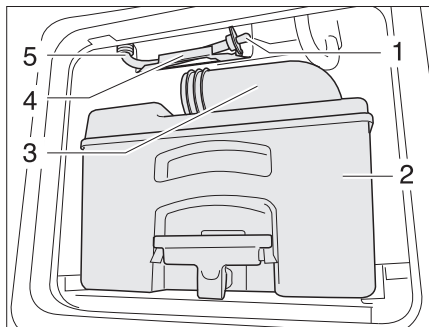

Fig. 194 Toilet water tank drain hose
- Empty the cassette (Fig. 194,2) at a disposal station authorized for this purpose and clean it.
- Leave the drainage neck (Fig. 194,3) open.
- Remove the drain hose (Fig. 194,5) from the holder (Fig. 194,4).
- Remove the drain plug (Fig. 194,1) and let the residual water run out.